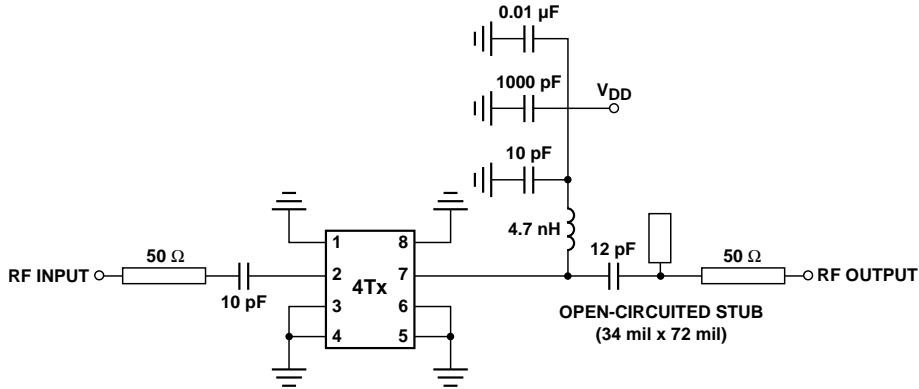

Figure 1. Production test circuit.
- Measurements made on a fixed tuned production test board (figure 1), which was optimized for gain and saturated power. Excess circuit losses had been de-embedded from actual measurement. Typical data based on at least 500 parts sample size from 3 wafer lots. Future wafers allocated to this product may have nominal values anywhere within the upper and lower spec limits.